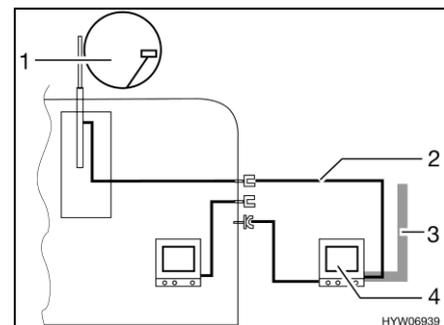

Fig. 210 TV in the awning
- TV inside the awning (Fig. 210,4): Connection to roof antenna (Fig. 210,1) with connection cable (Fig. 210,2)
- TV inside the awning (Fig. 210,4): Connection to external antenna (Fig. 210,3)